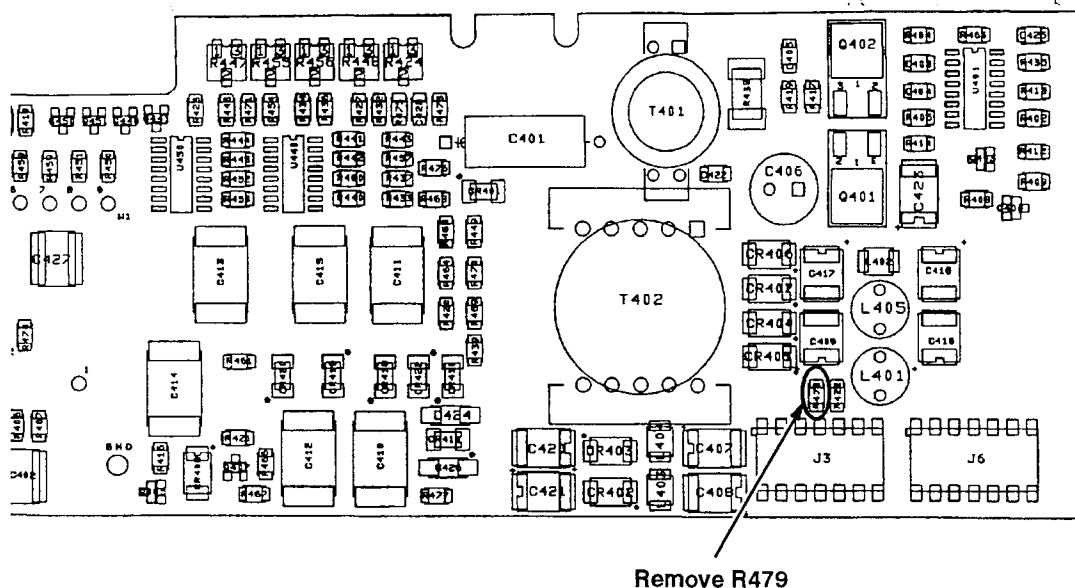

Figure 1: Location of R479 on the New Power Supply Board
- Step 13:** Unsolder and remove R479, the 2.21 k $\Omega$  surface mount resistor located directly above J3 on the new Power Supply circuit board. Refer to Figure 1.